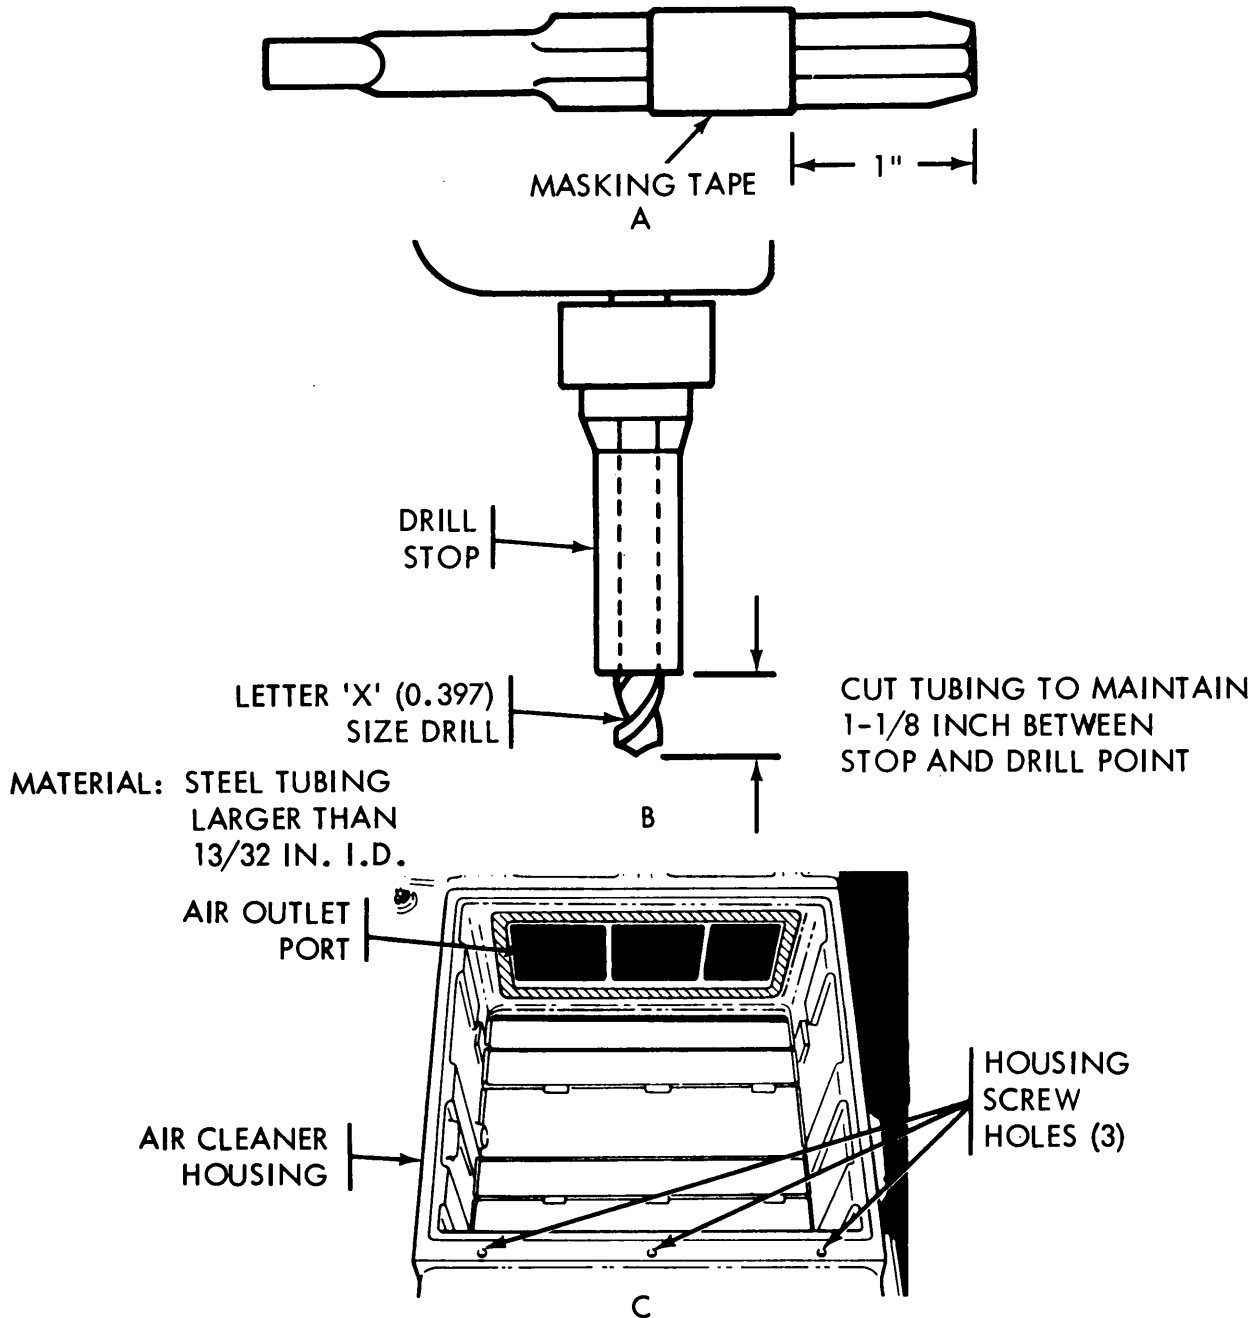

Figure 4-26. Air cleaner housing screw hole repair.
#### (2) Repair. Perform the following to repair housing hole (fig. 4-26).